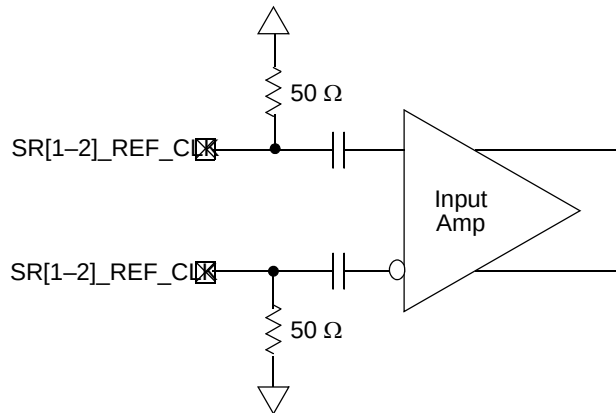

Figure 5. Receiver of SerDes Reference Clocks
The SerDes reference clock inputs are applied to an internal PLL whose output creates the clock used by the corresponding SerDes lanes. The SerDes reference clock inputs are SR1_REF_CLK/SR1_REF_CLK or SR2_REF_CLK/SR2_REF_CLK. Figure 5 shows a receiver reference diagram of the SerDes reference clocks.
- The SR[1-2]_REF_CLK and SR[1-2]_REF_CLK are internally AC-coupled differential inputs as shown in Figure 5. Each differential clock input (SR[1-2]_REF_CLK or SR[1-2]_REF_CLK) has on-chip 50-Ω termination to GND_{SXC} followed by on-chip AC-coupling.